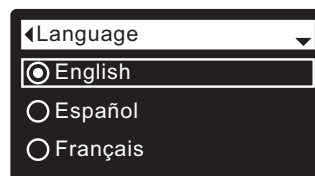

FIG. 56
5. Press the SELECT (O) button to display the Language menu (See Figure 56).
6. If the desired language already has a dot next to it (See Figure 56), go to Step 7. Otherwise, press the DOWN (▼) or UP (▲) buttons to scroll to the desired language, then press SELECT (O) to choose it. The choices are: English, Spanish, French, Italian, German, Dutch, Polish, Russian, Hungarian, Turkish, Lithuanian, Greek, Romanian, Czech, Slovak, Bulgarian, Serbian or Croatian.